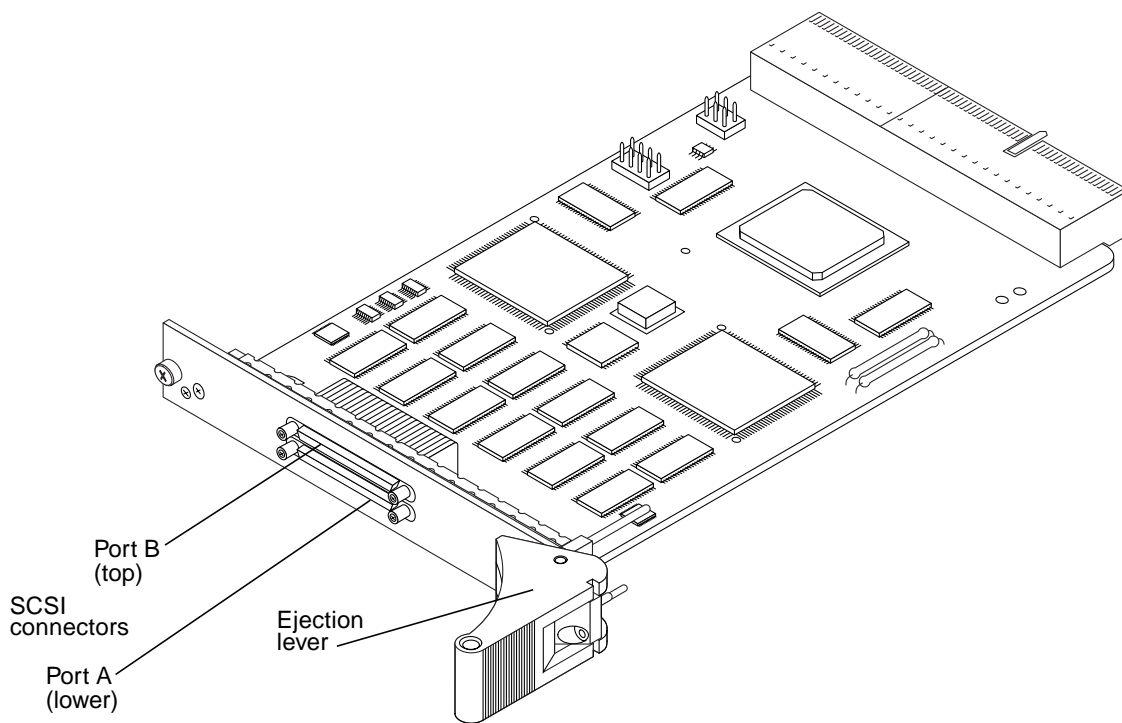

FIGURE 1-1 Sun StorEdge CompactPCI Dual Ultra1 Differential SCSI Host Adapter
- FIGURE 1-1 Sun StorEdge CompactPCI Dual Ultra1 Differential SCSI Host Adapter 1